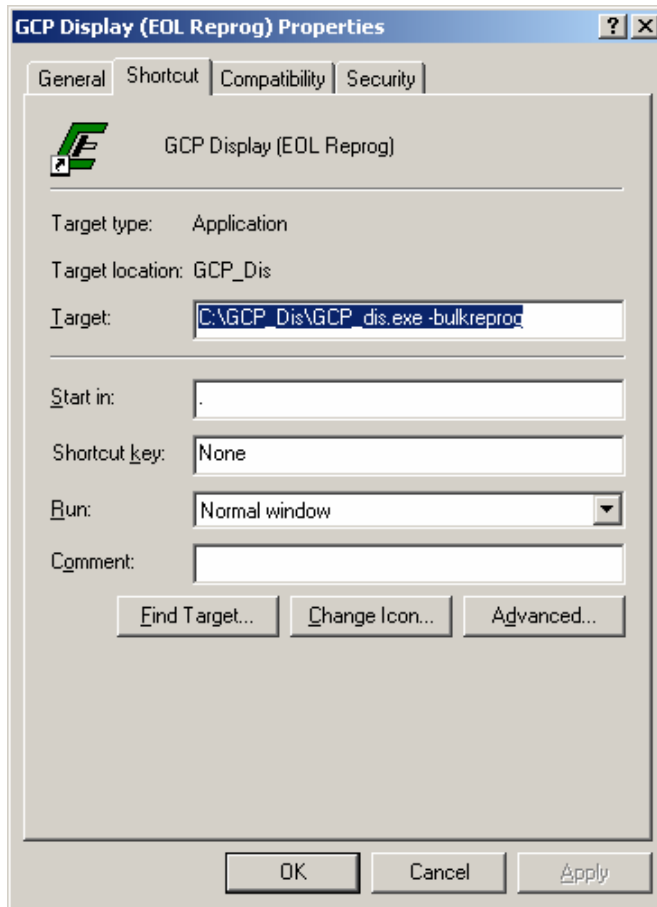

Figure 8: EDIS Shortcut Configured for Bulk Reprogramming
- Launch EDIS by selecting an *EDIS_Dis* shortcut that is configured to activate the ‘Bulk Reprogram’ feature. This shortcut can be configured by right-clicking the shortcut icon, selecting *Properties*, and entering *-bulkreprog* at the end of the *Target:* field. Figure 8 shows an example of the shortcut icon’s *Properties* configuration.